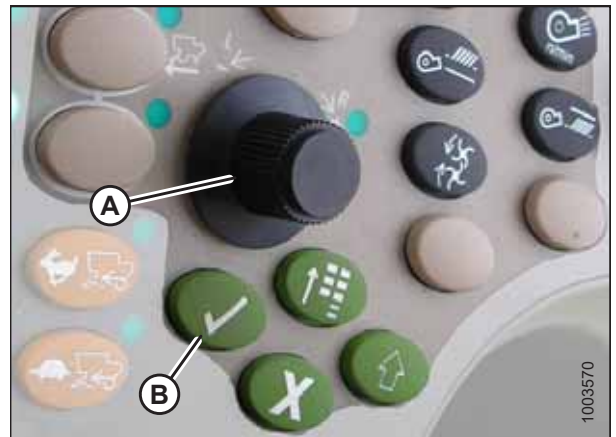

Figure 6.270: John Deere Combine Control Console
6. Select HEADER in box (A) by scrolling down to the box using the scroll knob, and then pressing the check mark button (knob and button are shown in Figure 6.270, page 291).
7. Scroll down to the lower right icon that resembles an arrow in a diamond (B) and press the check mark button to select it.